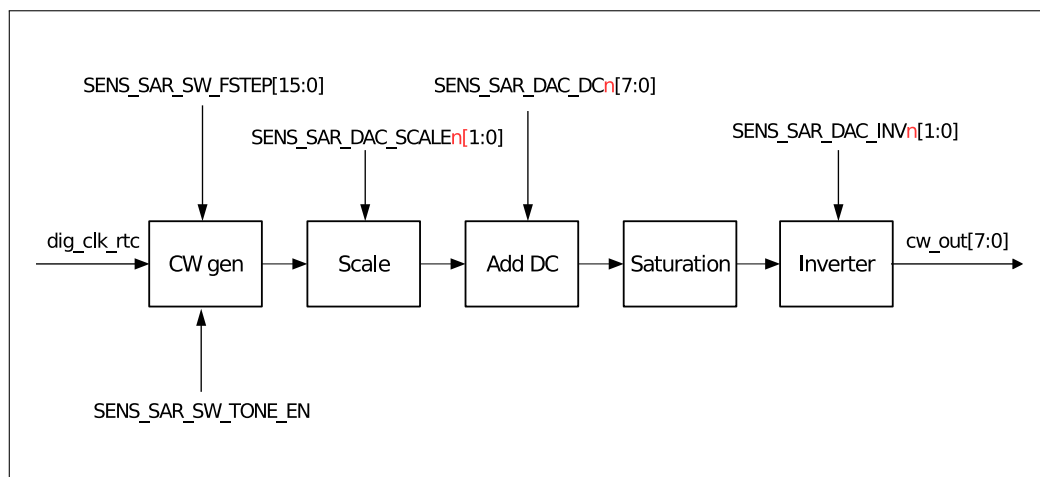

Figure 32.3-2. Workflow of CW Generator
The cosine wave (CW) generator can be used to generate a cosine or sine tone. Figure 32.3-2 shows The function of CW generator.